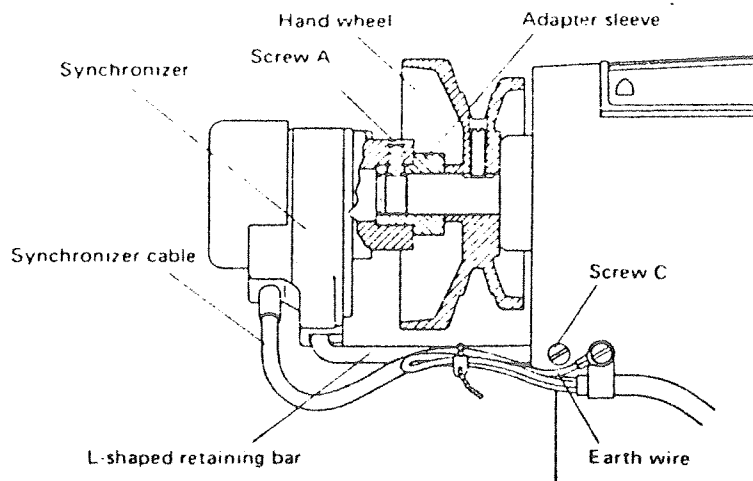

Fig. 1
- (1) Insert L-shaped retaining bar (which is put into the accessories box together with other parts for setting the synchronizer) into the hole drilled into the machine arm at its right end.
- (2) Insert the adapter sleeve into the synchronizer. (Fig. 1) At the same time, make sure that the L-shaped retaining bar enters the groove at the rear bottom of the synchronizer and lock that bar onto the machine arm with C screw also found in the accessories box.
(5) Connect the synchronizer cable to the machine as shown in Fig. 1.